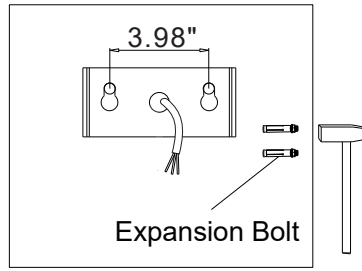

Figure 5
- Step 2: Knock the expansion bolt into the wall and fix the DM4 bracket on the wall with the bolt. (Figure 5)